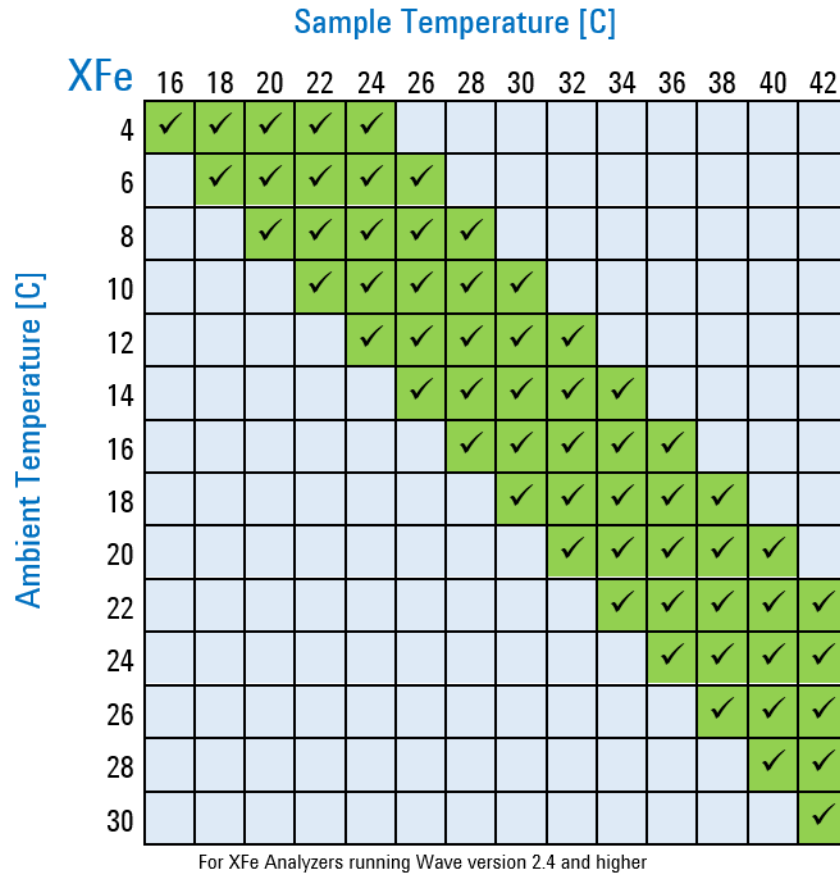
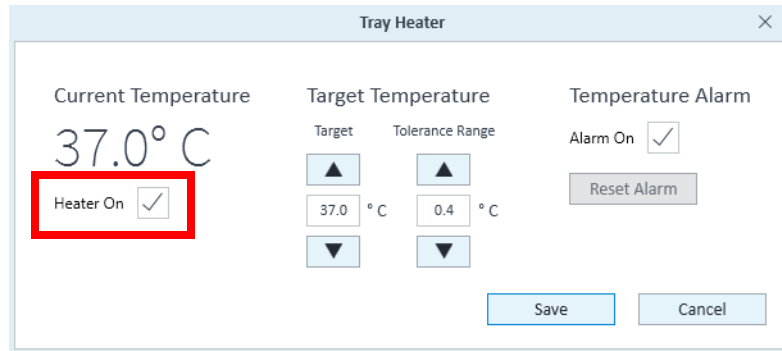

Figure 35 Temperature chart
Figure 37 Edit temperature settings window
Seahorse XFe Analyzers have been validated to deliver desired target temperatures in the range of 16-42 °C provided the ambient room temperature is 12-20 °C below the target temperature, and in the validated operational room temperature range of 4-30 °C. To understand the relationship between the sample temperature and ambient temperature, see Figure 35 on page 37 for the temperature chart.
- If required to set up the XFe Analyzer in cold room, avoid direct fan sources. (See Figure 35 on page 37.)
To adjust the Target Temperature (set point) using the up/down arrows, click on the **Temperature Widget** to display the Tray Temperature window. (See Figure 36 and Figure 37 on page 38.) Ensure your ambient conditions support the desired target temperature (12-20 °C above ambient). Refer to the temperature chart shown in Figure 35.